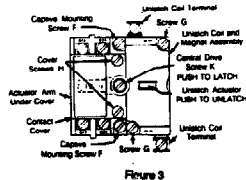

Figure 3
- 5.5 Push unlatch actuator to assure unlatched condition. Figure 3.
- 7.1 Loosen captive screws G and remove assembly Figure 3.